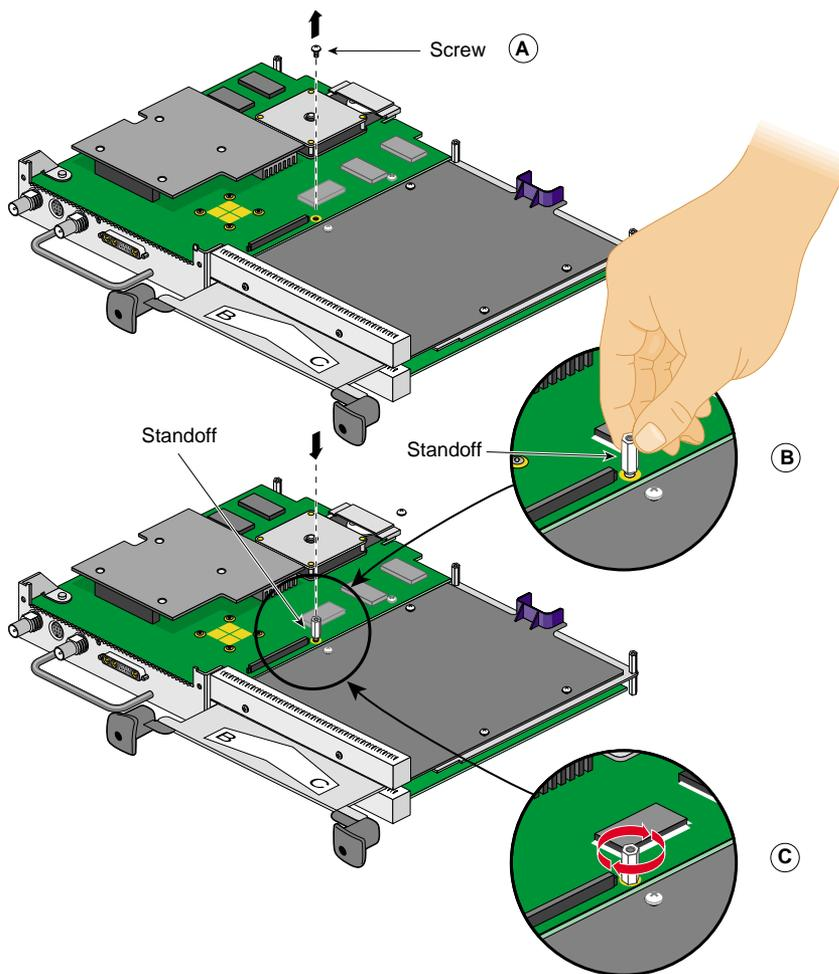

Figure 1-14 Installing the Standoff
- Remove the screw that is located behind the daughterboard connector on the VPro Graphics Board (see A in Figure 1-14), and save it for later in the installation.
- Insert the standoff into the hole from which you removed the screw (B).
- Seat the standoff by turning it clockwise (C), but do not overtighten.